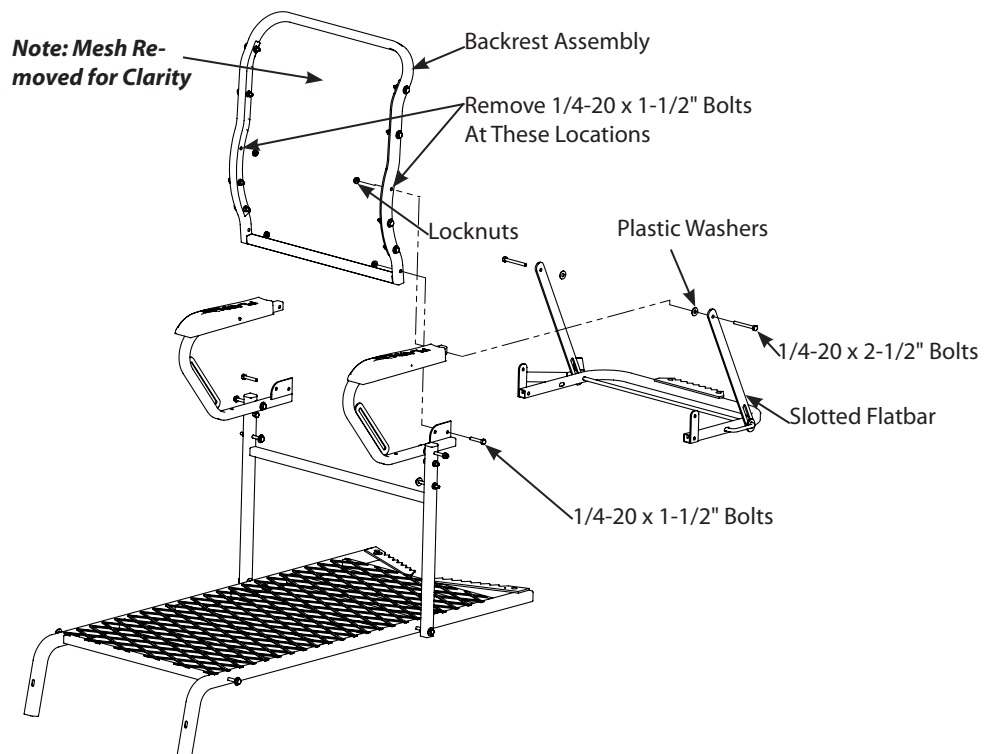

Figure 5
5. a. Remove the middle 1/4-20 x 1-1/2" bolts and locknuts on each side of the backrest assembly in order to attach it to the rest of the ladder stand. These bolts may be discarded. **SEE FIGURE 5.**
- b. Attach the backrest assembly (14337) to the armrest assemblies (14349 & 14348) using (2) provided 1/4-20 x 1-1/2" bolts and locknuts through the lower holes on the backrest. **SEE FIGURE 5.**
- c. Attach the slotted flatbar to the armrest assemblies and backrest assembly through the hole in which bolts were just removed. Secure parts together using (2) provided 1/4-20 x 2-1/2" bolts, and locknuts. **SEE FIGURE 5.**